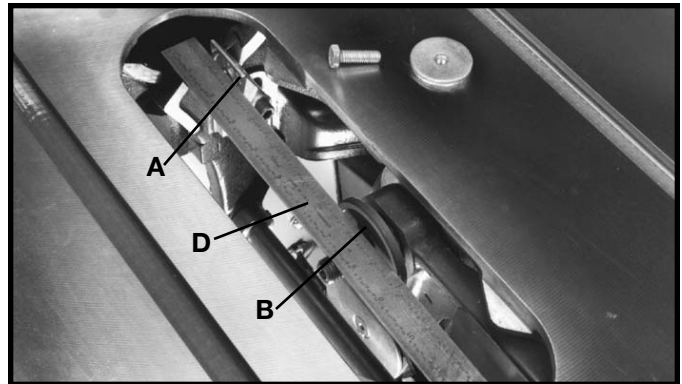

Fig. 13
3. To check the alignment, remove screw and fastener plate (C) Fig. 12. Using a straight edge (D) Fig. 13, check to see if the splitter bracket (A) is aligned with the inside blade flange (B). Check both the top and bottom of bracket (A) with the top and bottom of flange (B).